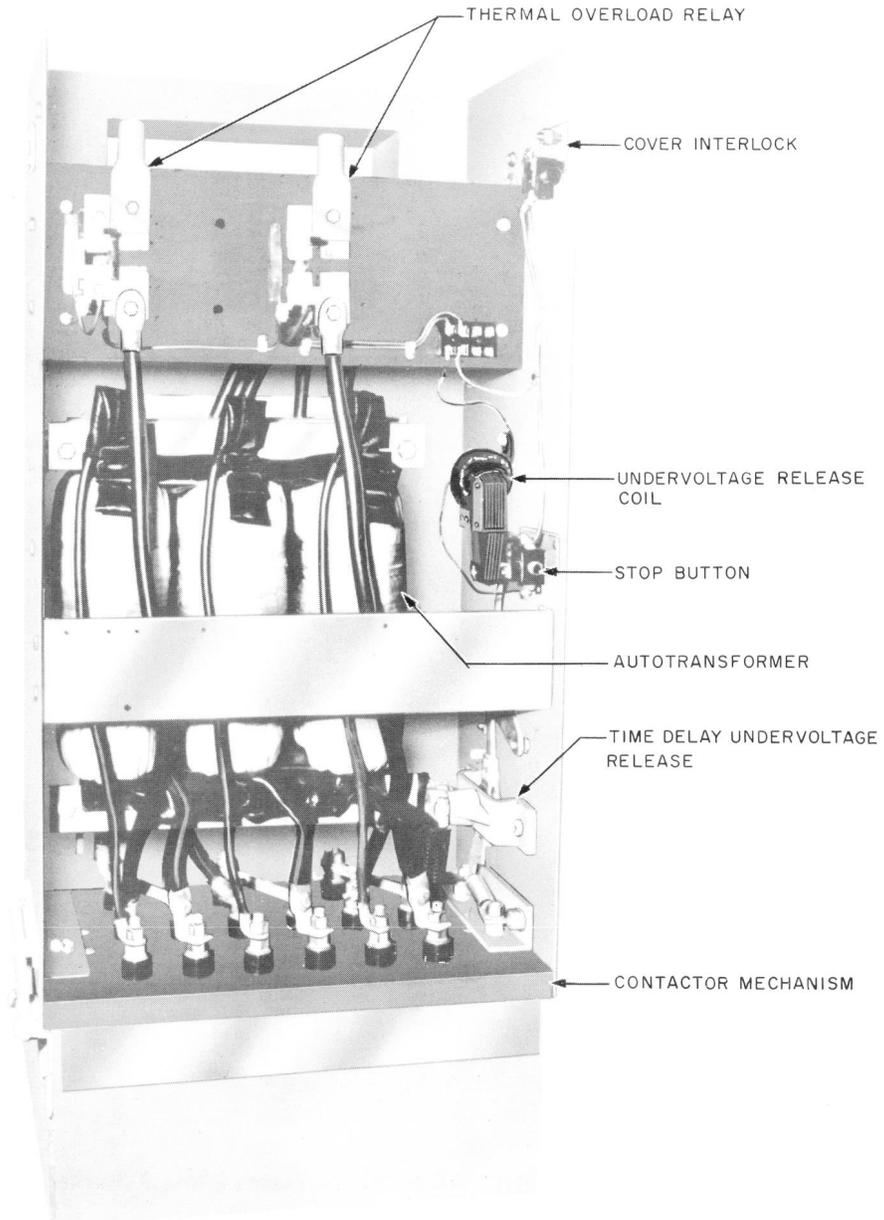

Fig. 2 – KS-5140-01 Manual-type AC Starter — Forms K33 and G150
1.02 This section is reissued to revise the title, to add operate requirements and test procedures for overload relays, to add the form G150 starters, to add the CR2824-41M and -42G relays, to remove information covering the selection and replacement of heater elements on nonadjustable relays, to revise the list of tools, gauges, and materials, and to add Fig. 2, 3, 8, and 13. In addition, the phi (ϕ) sign and the asterisk (*) sign have been added.